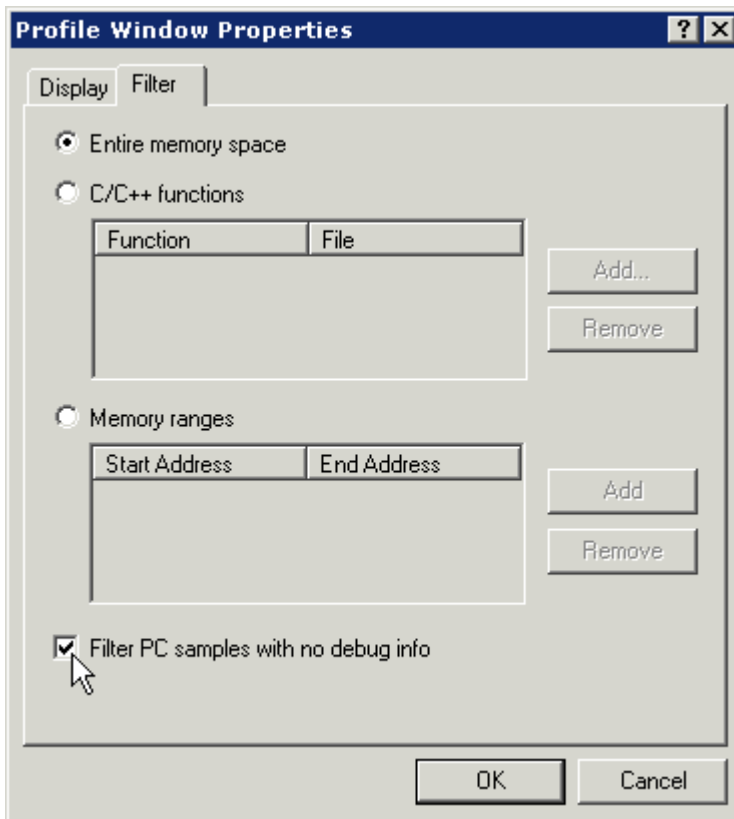

Figure 2-34. Filtering Samples with No Debug Information
4. Select the **Filter** tab (shown in Figure 2-34) and then click in the **Filter PC samples with no debug info** check box to enable the filter. Click **OK** to close the dialog box.